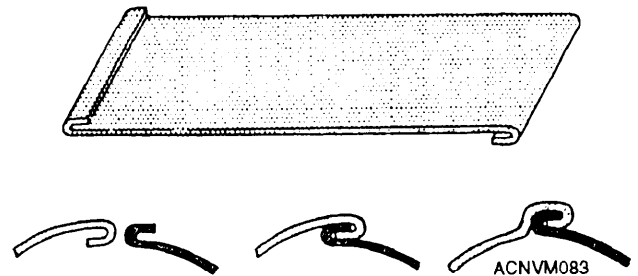

Figure 12-83.—Forming a grooved seam.
2. Rotate the sheet 180 degrees and then flip it over. Then form the bend for the other half of the lock, as shown in figure 12-83.